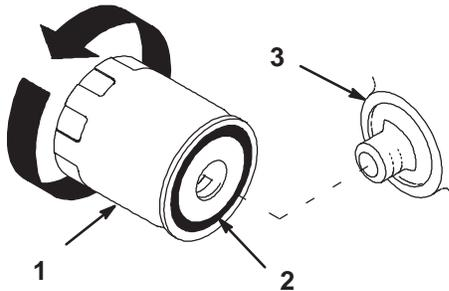

Figure 36
2. Remove the old filter and wipe the filter adapter (Fig. 36) gasket surface.
4. Apply a thin coat of new oil to the rubber gasket on the replacement filter (Fig. 36).
5. Install the replacement oil filter to the filter adapter. Turn the oil filter clockwise until the rubber gasket contacts the filter adapter, then tighten the filter an additional 1/2 turn (Fig. 36).